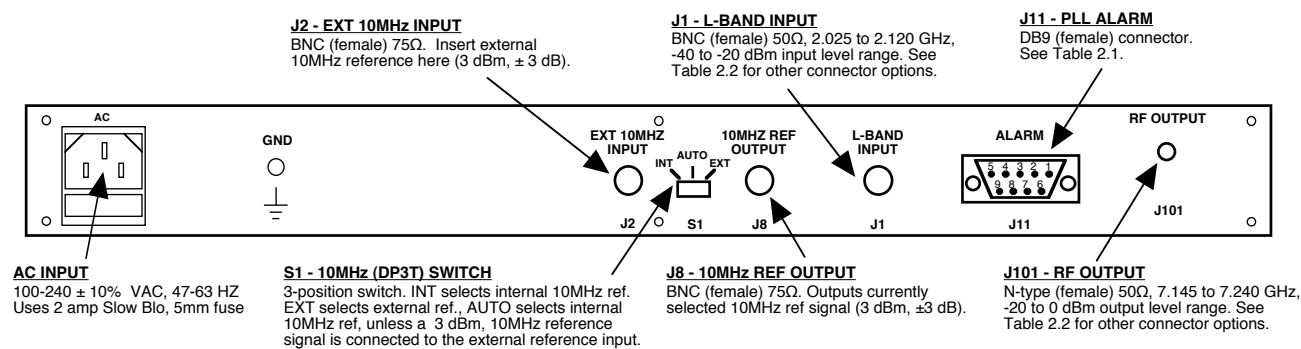

FIGURE 2.1 2115-7172-2021 Rear Panel I/O's
2.2 Rear Panel Input/Output Signals - Figure 2.1 shows the input and output connectors on the rear panel.
1. Connect a -40 dBm to -20 dBm signal to L-BAND INPUT, J1 (Figure 2.1).
5. Select either INT (for internal 10MHz ref), AUTO (for internal 10MHz ref UNLESS a external 10MHz, 3 dBm signal is connected to J2), or EXT (for external 10MHz, 3 dBm ref that is inserted at J2) on rear panel switch S1 (Figure 2.1).
7. Check that a 10MHz, 3 dBm ± 3 dB signal is present at the 10MHz REF OUTPUT (J8) (Figure 2.1).